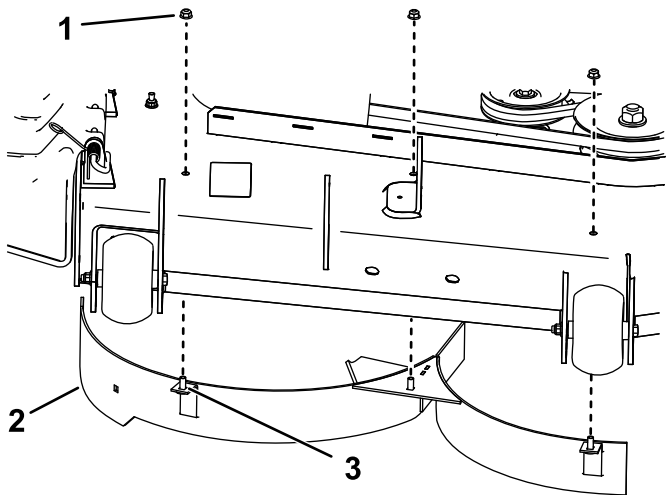

Figure 10
2. Install the right baffle using 3 nuts (5/16 inch) as shown in Figure 10. Tighten the fasteners by hand.